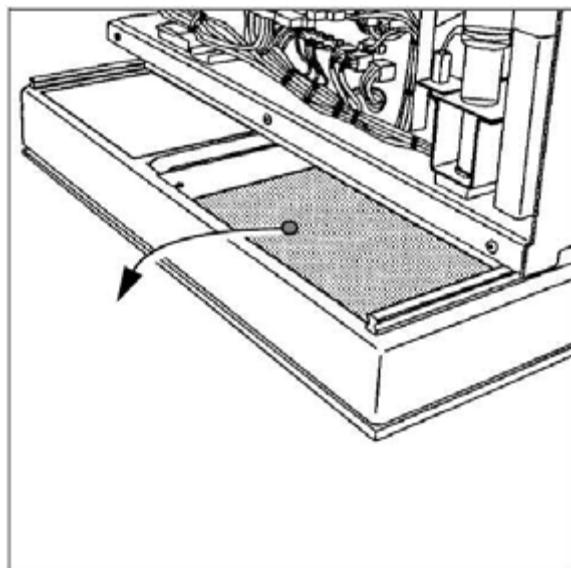

Fig. 23: Removing cover
- Loosen the four cover screws of the front, gray base frame cover and pull the plate out to the side (refer to \(Fig. 23 / p. 57\)).